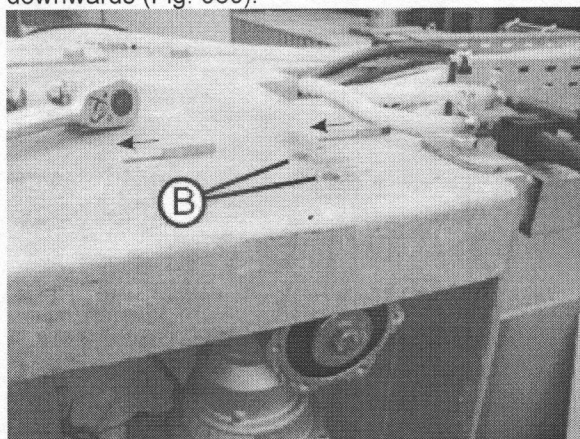

Fig. 060
5. Loosen both retaining screws (B) of the lifting motor, push complete unit to the left and remove downwards (Fig. 060).